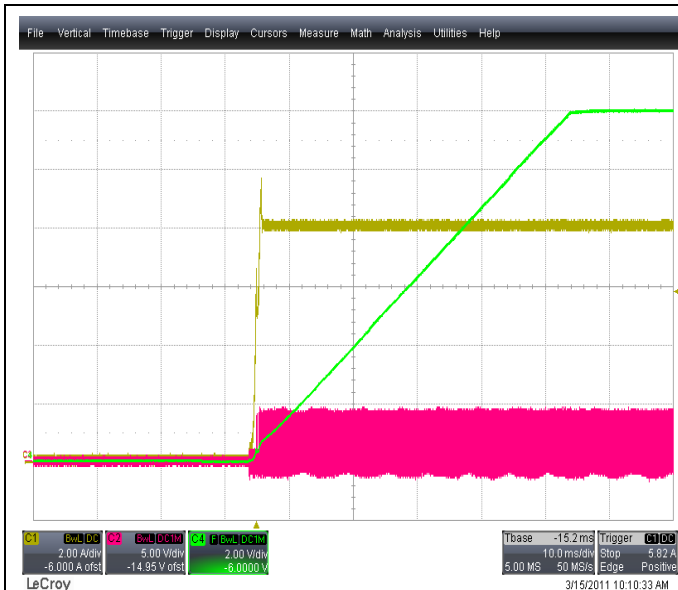

Figure 14 – Softstart ramp, 48VDC, 8A load, with synchronous rectifiers enabled during softstart.
- A. **PS_ON Turn on Delay:** Figure 14 and Figure 15 show the startup sequence with a 0.5 second and 2 second delay respectively.